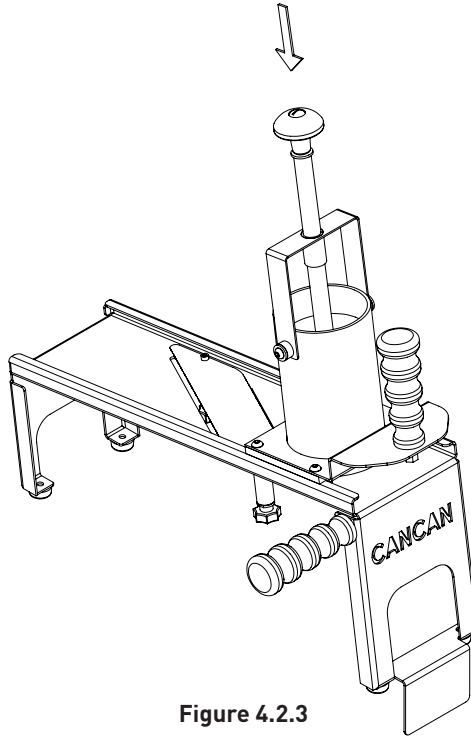

Figure 4.2.3
- Drop the Handle into the Chamber. **(Figure 4.2.3)**